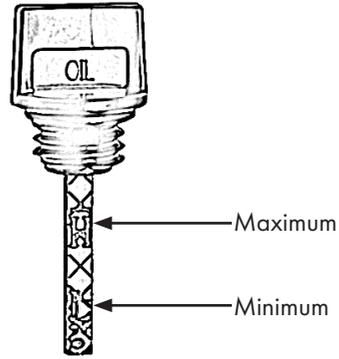

Figure 23
- Read the oil level, see also Fig. 23.
There must be an oil film between the upper and lower markings. If there is no oil film, the oil level is too low, Fig. 23. Top up with more oil. H-High stands for maximum. L-Low stands for minimum.